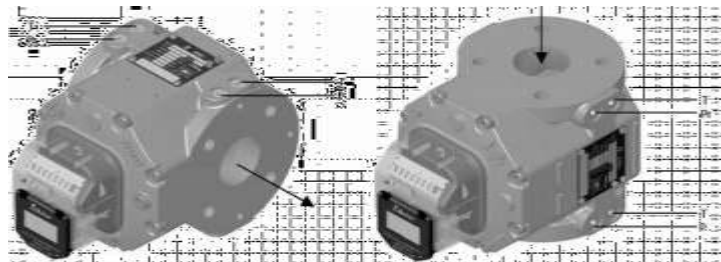

Figure 5 Flange to Flange: 171mm
- 8) The meter is shipped without oil in the reservoir.Fill the meter at the front side to the indicated level with the oil supplied (see fig. 5 and 6). For a correct reading of the oil level it will take a few minutes for stabilizing.